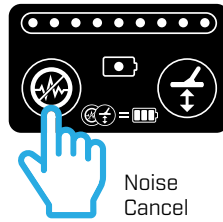

Figure 18: *Noise Cancel*
- a. Holding the coil stationary and at least 600 mm [24 in] above the ground **press and immediately release** the Noise Cancel button (see Figure 18).